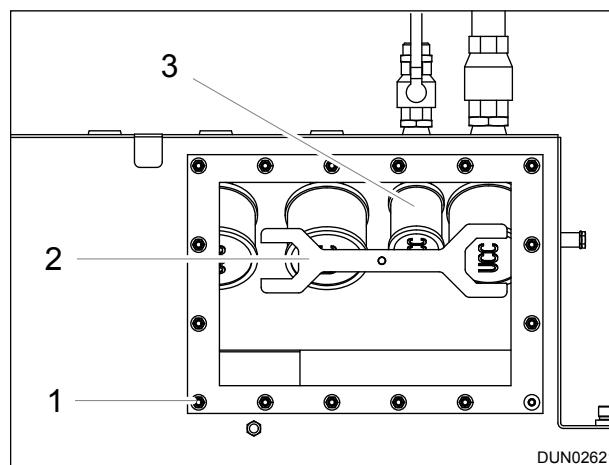
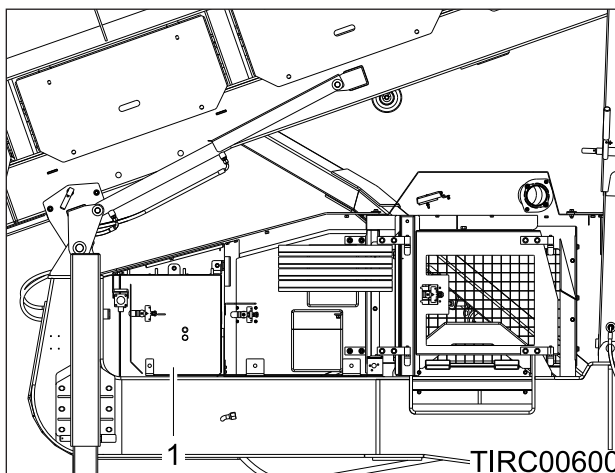

Figure 9.26 - Suction Filters
Figure 9.27 - Engine Inspection Door
1. Turn off the engine. Open the engine inspection doors (Item 1, Ref: Figure 9.27).
2. Turn off the engine. Open the engine inspection doors (Item 1, Ref: Figure 9.27).
3. Unscrew the drain bung (Item 1, Ref; Figure 9.27) at the bottom of the water trap (item 2, Ref; Figure 9.26) and allow the water to drain out into a suitable container.